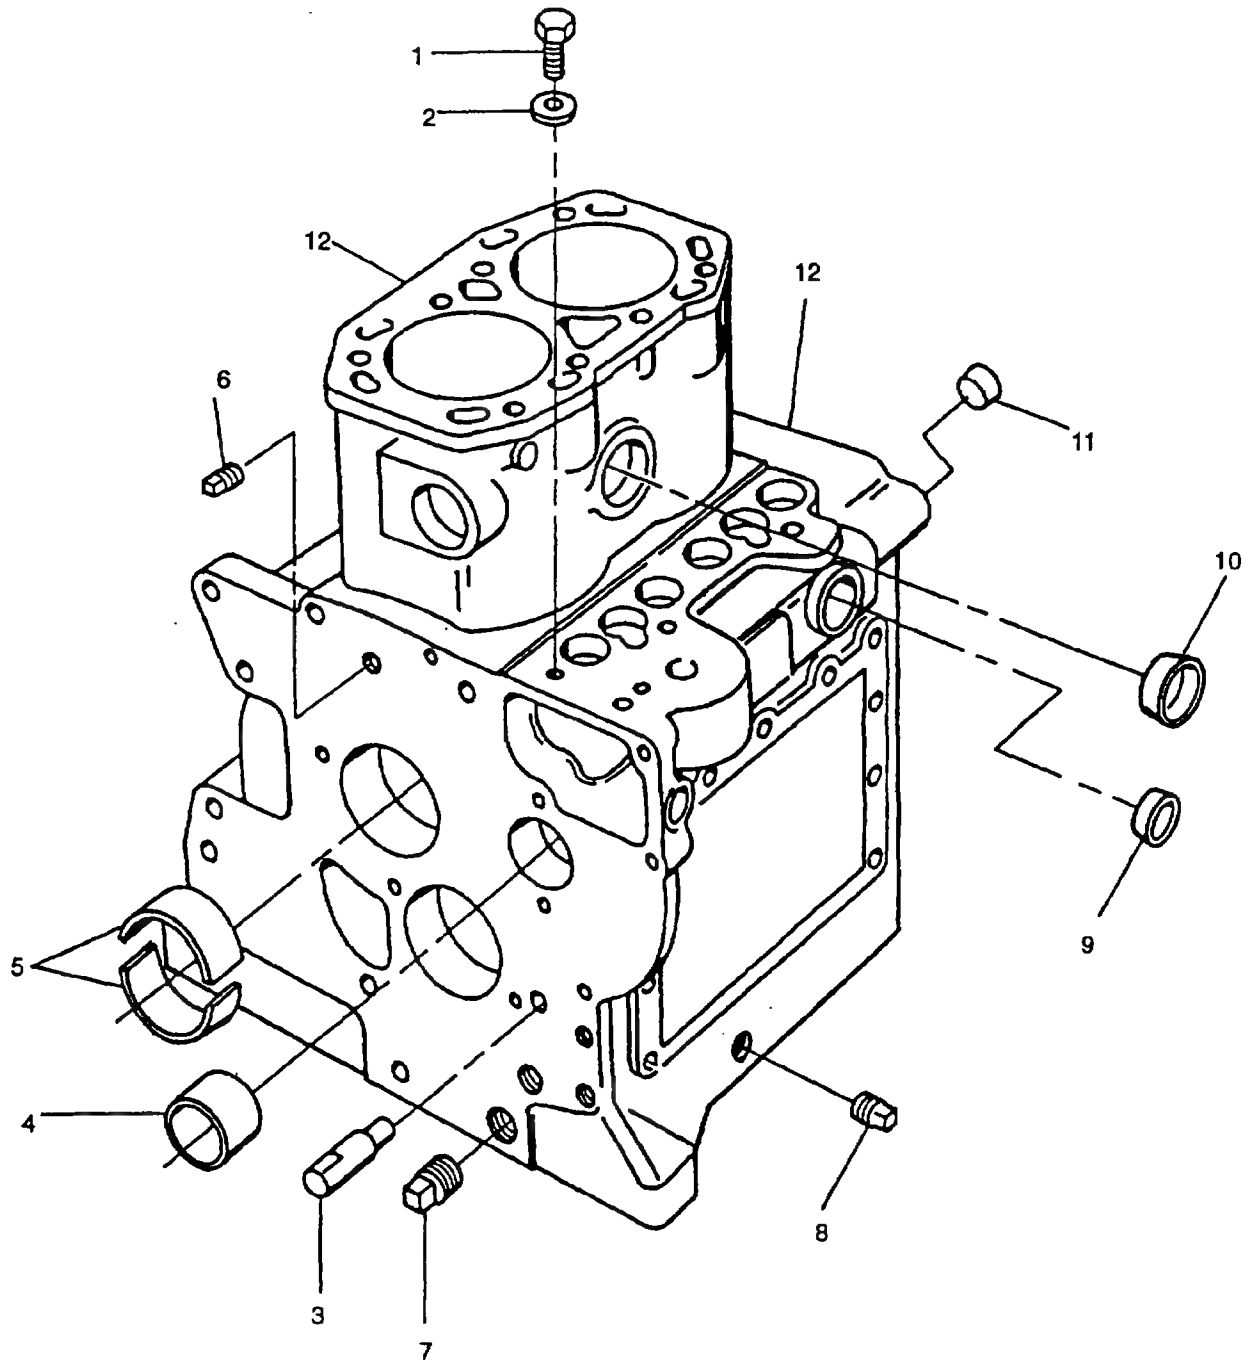

FIGURE 3-43. Crankcase Assembly
- a. If damaged, remove two capscrews (1, FIGURE 3-43) and copper washers (2).
- b. If damaged, remove two pivot supports (3).
- c. Using camshaft bushing tool (317-50106), remove camshaft bushing (4) as follows:
- (1) Install guide into bushing (4) from inside crankcase.
- (2) Install slide hammer onto guide threads.
- (2) Install bolt and dolly into bearing (5, FIGURE 3-43) from oil seal side (crankcase outside face).
- (3) Install bridge over bolt threads until two legs are against crankcase.
- (4) Install spacer onto bolt.
- (5) Use a suitable wrench to tighten nut until bearing shells are withdrawn.
- (2) Place new bearing shells (**5, FIGURE 3-43**) into collar ensuring that one oil feed hole is in line with pilot pin and end of shell is in line with mark on collar face.
- (3) Place driver onto collar with cutout on driver located over collar pilot pin.
- (4) Push driver sufficiently until bearings come out other side of collar to provide a lead in.
- (5) Install assembly into crankcase from gear end with pilot pin in line with the oil feed hole in crankcase.
- (6) Place bolt through assembly.
- (7) Install bridge, spacer, and nut onto bolt.
- (8) Tighten nut until driver is against face of collar.
- (9) Remove tool.
- (10) that oil hole in bearing shell (5) is correctly aligned with oil feed hole in crankcase.
- h. Using camshaft bushing tool (317-50106), install camshaft bushing (4) as follows:
- a. Clean block (12, **FIGURE 3-43**) thoroughly using dry cleaning solvent (P-D-680), pressure steam, or a hot tank.